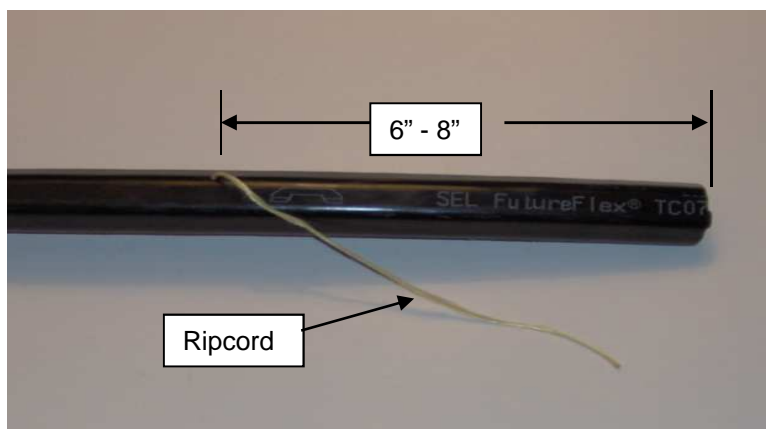

Figure 4
8.3 Locate ripcord inside tube cable end. Use Hook Blade Knife to slit jacket about 6”-8” and bring ripcord up through slit. **See Fig. 4.**